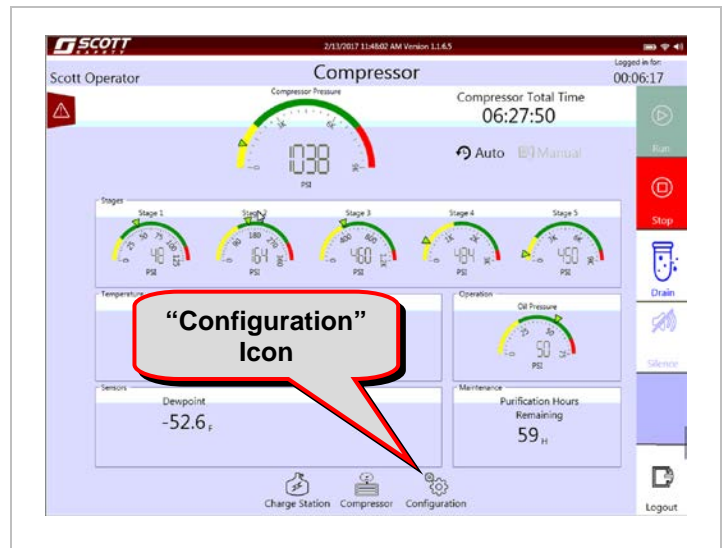

Figure 4.4-1: Select Configuration
1. To gain access to the CO Calibration Screen/Instructions touch the configuration Icon located at the bottom of the Smart Touch. See Figure 4.4-1.